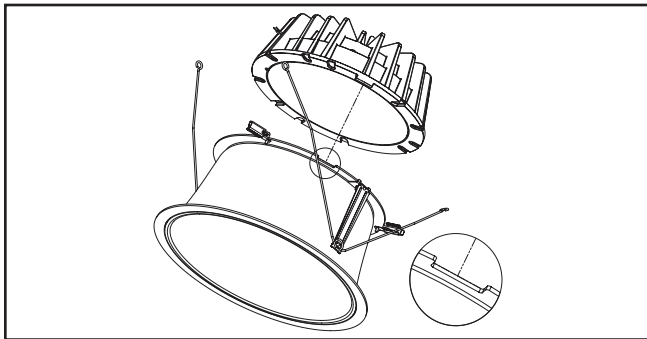

Figure 37.
4. Insert LED engine on to trim assembly. Align post on LED engine with slot on trim assembly (Figure 37).